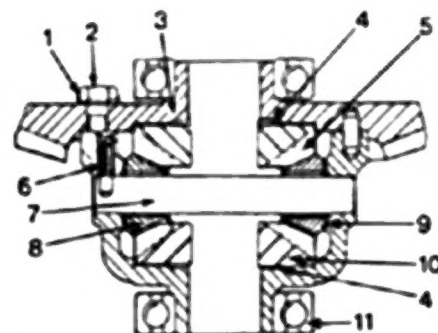
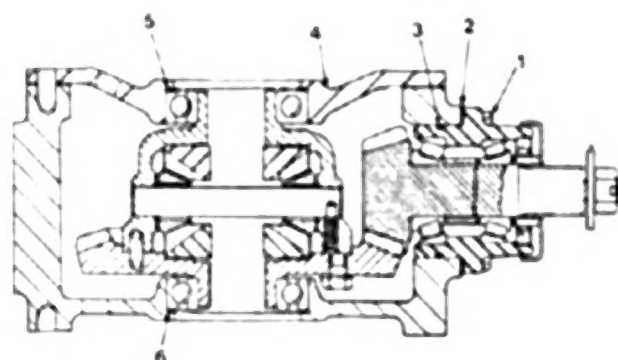
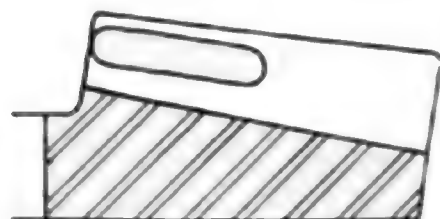

Fig. 11 - Sectional view of bevel gear and differential assembly removed from differential housing.
Fig. 10 - Sectional view of bevel drive gears and differential assembly removed from front drive axle.
Fig. 17 - View showing correct tooth contact pattern on bevel gear. Refer to text.
To disassemble the center section, refer to Fig. 10 and remove the four cap screws (1). Withdraw the bevel drive pinion and bearing assembly, taking care not to lose any shims (2). Remove cover (4) and shims (5), then lift bevel gear and differential assembly and shims (6) from differential housing. Straighten lock plates (1 - Fig. 11), remove cap screws (2) and lift off bevel gear (3). Remove thrust washer (4) and side gear (5). Remove pinion shaft retaining dowel screw (6), push out differential pinion shaft (7) and remove differential pinion gears (8) and thrust washers (9). Lift out side gear (10) and thrust washer (4). Remove bearings (11) from bevel gear and differential case. Clean all differential parts and inspect for excessive wear or other damage. Bushings are renewable in differential pinion gears. Press new bushings
To adjust the bevel gear backlash, lay differential housing on its left side and place a selected shim pack (6 - Fig. 10) of approximately 0.065 inch thickness in bearing bore. Install bevel gear and differential assembly, then install bevel drive pinion assembly with the previously determined shim pack (2). Secure with cap screws (1). Mount a dial indicator on the differential housing so the actuator tip of indicator is against bevel gear tooth as close to the outside as possible. Hold bevel pinion stationary and rock bevel gear back and forth, noting indicator reading. Rotate bevel gear and recheck backlash every 90 degrees. Backlash should be 0.004-0.008 inch. If not, add or remove shims (6) as necessary to correct the backlash. Removing shims will increase backlash.
Paint both sides of some bevel gear teeth with yellow ochre or red lead. Rotate pinion until it is in mesh with the painted teeth and a good impression of tooth contact is obtained. Tooth contact pattern on bevel gear should be the same as shown in Fig. 17. If necessary, add or remove shims (6 - Fig. 10) under bevel gear bearing to raise or lower tooth contact pattern. To move tooth contact pattern toward the heel (outer end) or toe (inner end) add or remove shims (2) to move pinion in or out.
Install differential housing cover (4 - Fig. 10) with new gasket, but without shims (5). Using a feeler gage, measure gap between right carrier bearing and cover. Select a shim pack equal to the measured gap plus 0.004 inch. Install shim pack between right carrier bearing and the differential cover.